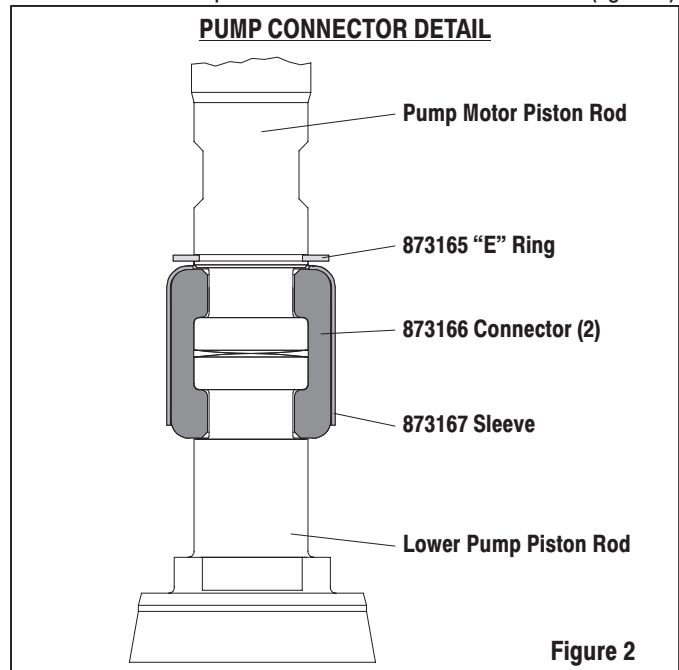

Figure 2
5. Using e-ring pliers, slide the "e" ring up far enough to allow the sleeve to move upward and release the two connectors (figure 2).